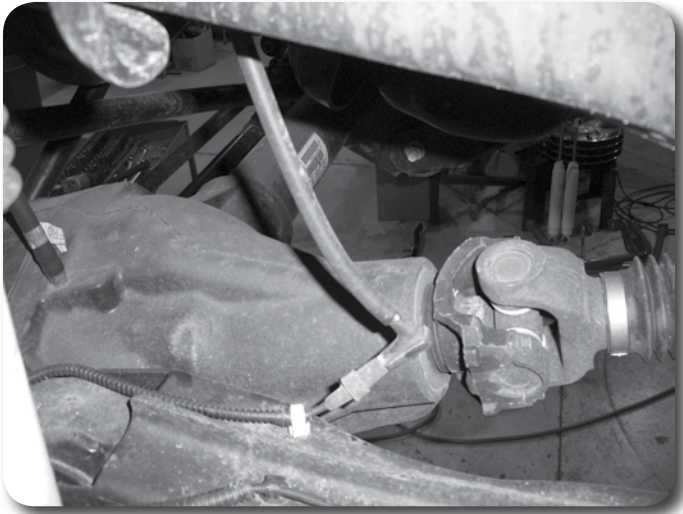

Figure 5A
8. Remove the front axle hub vacuum lines retaining clips from the axle/radius arm. Figure 5A,B